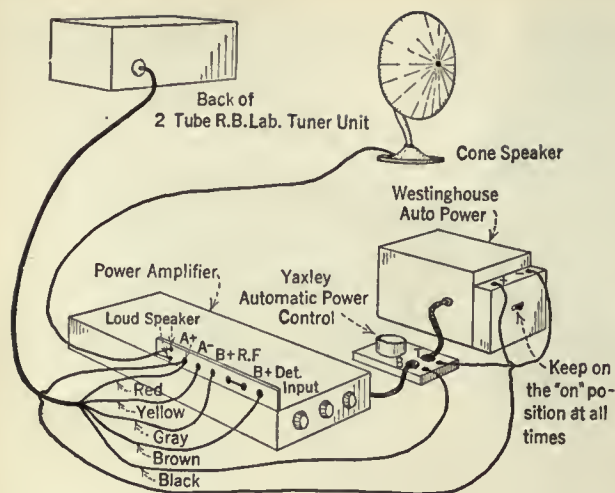

FIG. 7
This is the two-tube R. B. "Lab" Receiver. Used in conjunction with the line power-supply device described in this article, very excellent results are obtainable. The receiver may be connected to the power supply by a cable, such as that shown tapering off to the left of this page, which indicates connection to the unit at the bottom of the page. The loud speaker is one of the large size Western Electric cones. Compare this photographic layout with Fig. 7 on page 288
In the case of the two-tube R. B. "Lab" circuit receiver, the lead from the input (P) post on the amplifier is run to the output post on the set (See Fig. 7).